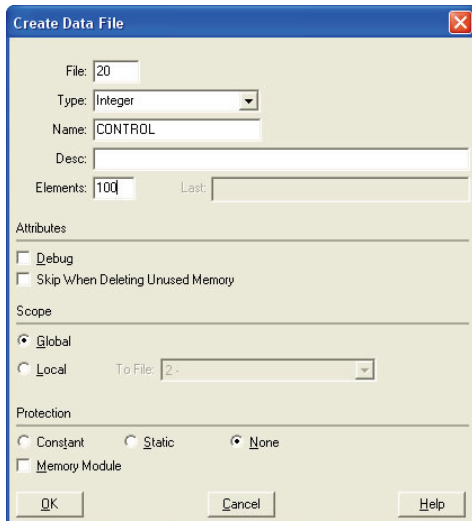

Figure 67: Creating a Control File
- a) Right click Data Files and select New... The “Create Data File” dialog box appears (refer to Figure 67).